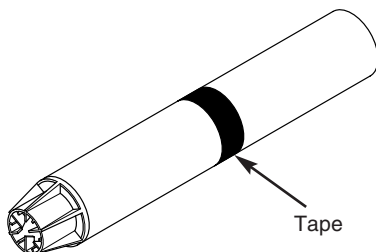

Fig. 33
7. Tape the sections of the outer ducts together with the tape provided ensuring a good seal is made (Fig. 33).